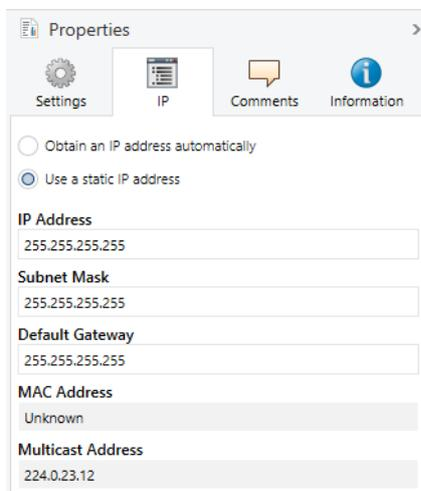

Figure 21: IP settings
3. You will find the available selection options in figure 21 and table 12 "Settings for manual IP address entry or for receiving automatically", p. 31.